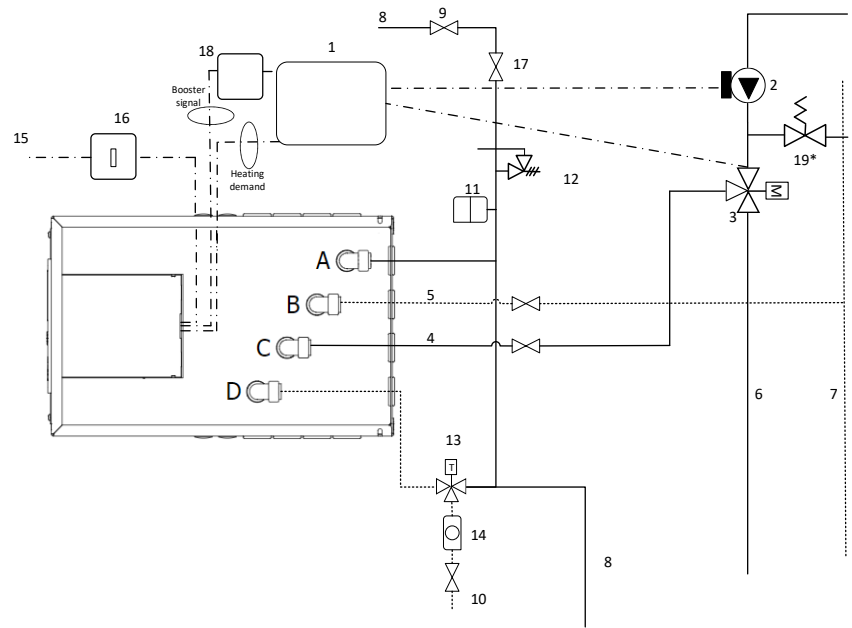

Figure 13.1: Example Wiring Option 2 Schematic (see Figure 3 for piping and electrical options available)
2. **+iLTHP option 2:** Daikin Low Temperature Heat Pump (Fig 13.1 & 13.2)
- Run and connect 3 Core mains power supply cable (16A minimum, minimum 2.5mm² CSA) from the Double-pole isolating switch to the Heat Battery controller (Figures 13.1 and 13.2).